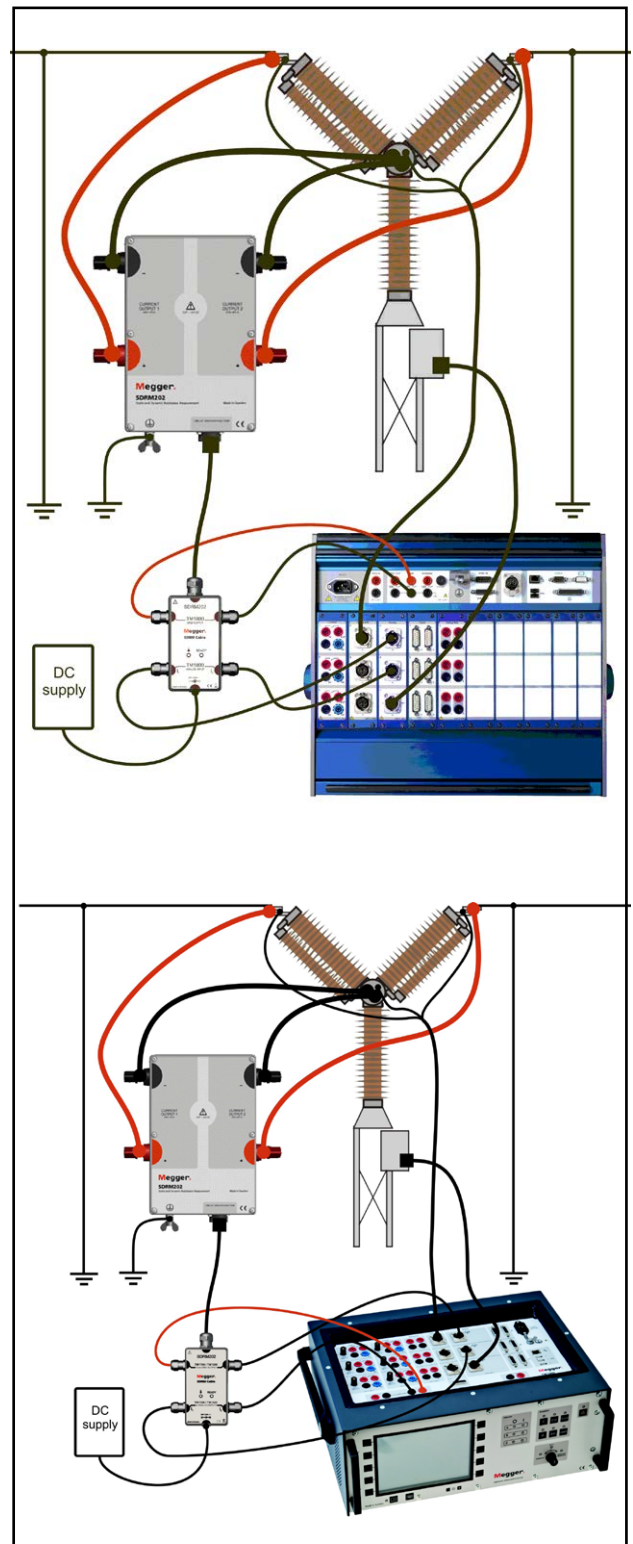

Figure 3.2.1 Figure shows hook-up with SDRM202 to TM1800 and TM1700. The SDRM201 is hooked-up the same way but with only one channel.
- 1] Hook up the SDRM201/202 to the CB according to the figure 3.2.1.